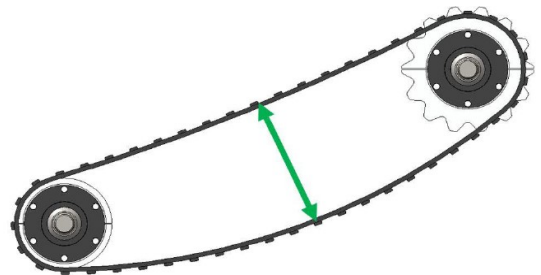

Figure 7-19: Distance between Top and Bottom Chains
NOTE: Distance (A), shown in Figure 7-19, between top and bottom chain should be kept at 10-12 inches (27.9 – 30.5 cm), measured from the centerline of chains.